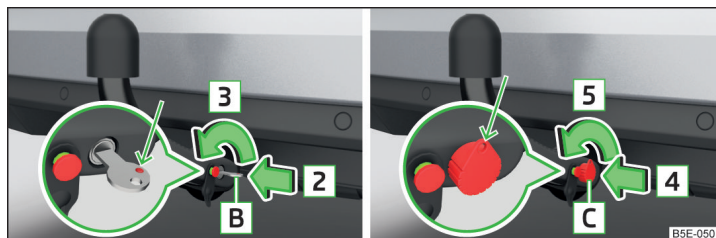

Fig. 175 Unlock lock: Key Version 1 / version 2 key
- Turn key **B** in the direction of arrow **3** so that the red marking is pointing upwards » Fig. 175.
- Turn key **C** in the direction of arrow **5** so that the eye of the key is pointing upwards » Fig. 175.